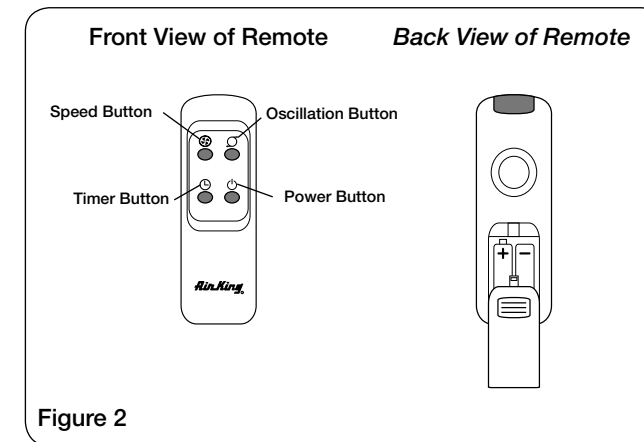

Figure 2
This Fan may be operated by the manual controls located on top of the unit or by the Remote Control (shown in Figure 2).
REMOTE CONTROL (Figure 2)
1. Install batteries as shown in Figure 2. The battery is type "AAA" (not included).